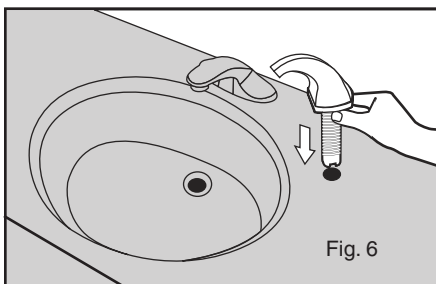

Fig. 6
7. Insert the threaded soap discharge shaft thru the hole in the countertop (see figure 6).